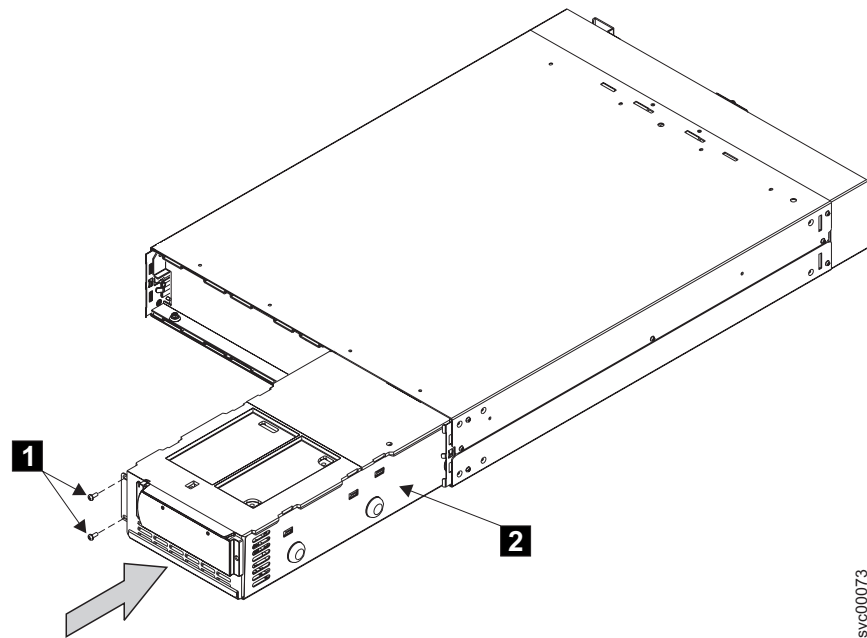

Figure 268. Replacing the electronics unit from the 2145 UPS
1. Replace the two screws in the front of the 2145 UPS. (**1** in Figure 268).
2. Insert the electronics assembly (**2** in Figure 268) into the 2145 UPS.